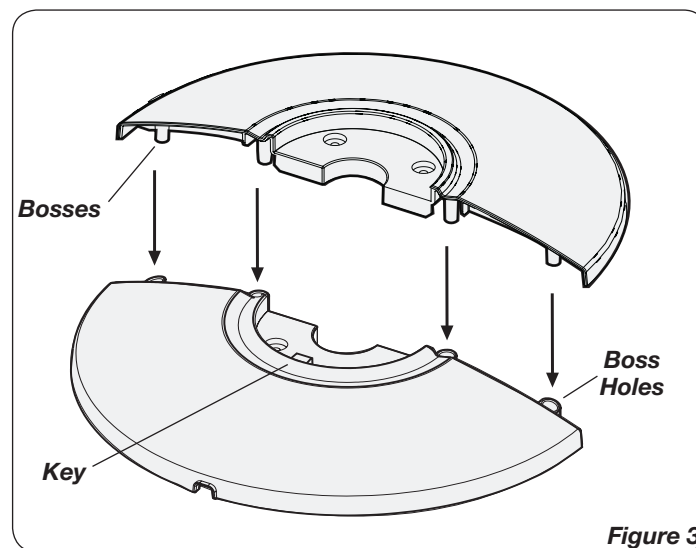

Figure 3
3. Assemble the Base by interlocking the **Bosses** into the **Boss Holes**. (Figure 3)